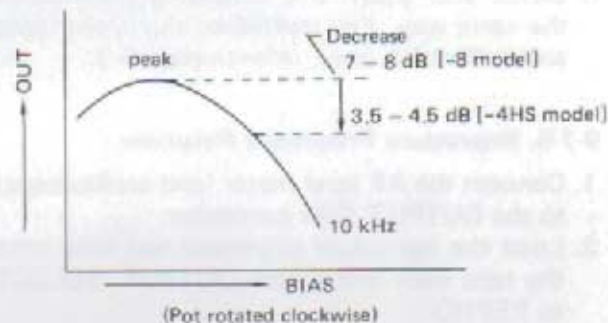

Fig. 9-5-11. Bias Level Adjustment
5. Begin the adjustments by turning trim pot R324 completely counterclockwise. Next, turn the trim pot clockwise and the AF level meter will rise to give peak reading. Slowly continue the clockwise rotation until the reading on the level meter drops 7 - 8 dB on the -8 and 3.5 - 4.5 dB on the -4HS, from the peak reading as shown in Fig. 9-5-11.